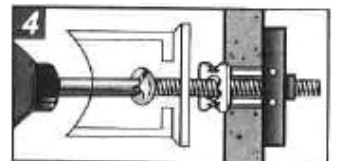

Figure 3.4
3.4 Place spacer over flange. Insert bolt and tighten until snug against cab wall and then stop. (Use only 1/4" -20 bolt (be conscience of cab wall to shaft wall clearances for any excess bolt length.) **Figure 3.4**